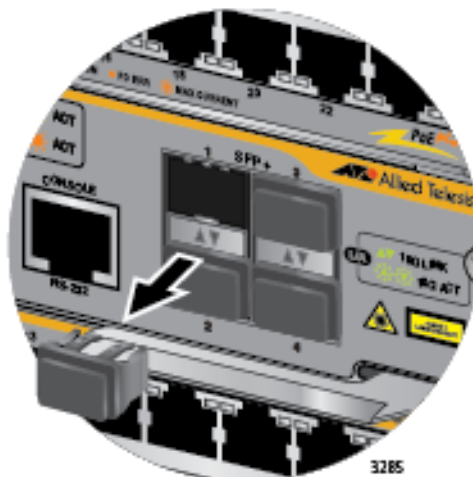

Figure 98. Removing a Dust Cover from an SFP+ Slot in the AT-SBx81CFC960 Controller Fabric Card
1. Remove the dust plug from the slot chosen for the SFP+ transceiver. Refer to Figure 98 on page 165.
1. Remove the dust plug from one of the SFP+ slots. You may install AT-SP10TW Cables in any of the SFP+ slots on the controller card. Refer to Figure 98 on page 165.